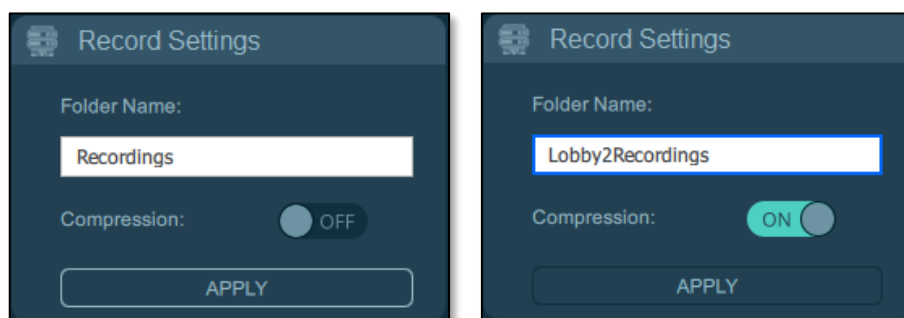

Figure 91. Client Record Settings Fields: Default (left), Optimized (right)
2. In the **Folder Name** field, the default name (**Recordings**) can be edited. See Figure 91. Client Record Settings Fields: Default \(left\), Optimized \(right\).